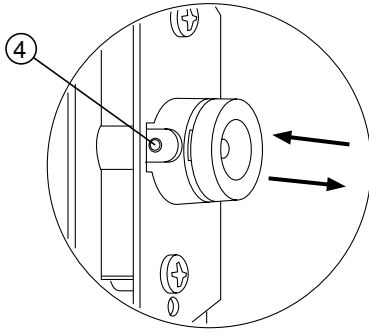
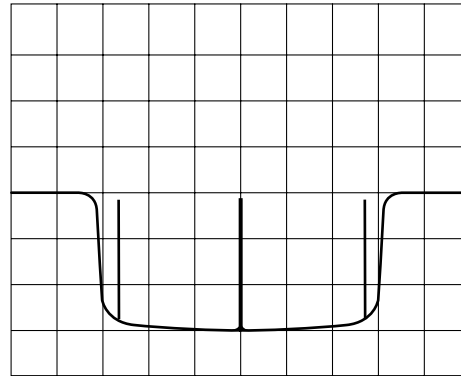

Fig.10
Fig.11
10) Focus Adjustment (See Figures 10 and 11.)
Move the Lens Unit so that the display waveform is sharp as far as possible (Figure 11) while monitoring the oscilloscope display. After that, adjust the focus and fix screw ④ (Figure 10).